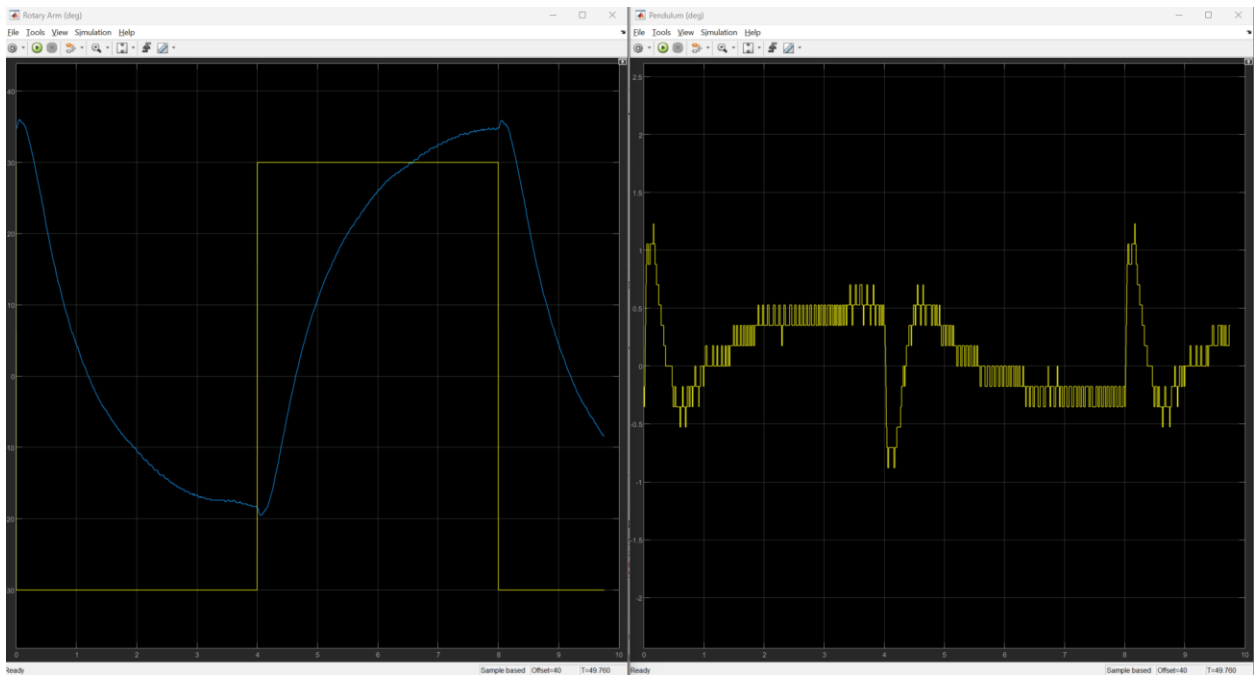

Figure 2: Sample response of balancing the pendulum between rotary arm angles.
21. Once the pendulum is balanced, set the **Gain** to 30 to make the rotary arm angle go between  $\pm 30^\circ$ . The scopes should be similar to Figure 2 below.